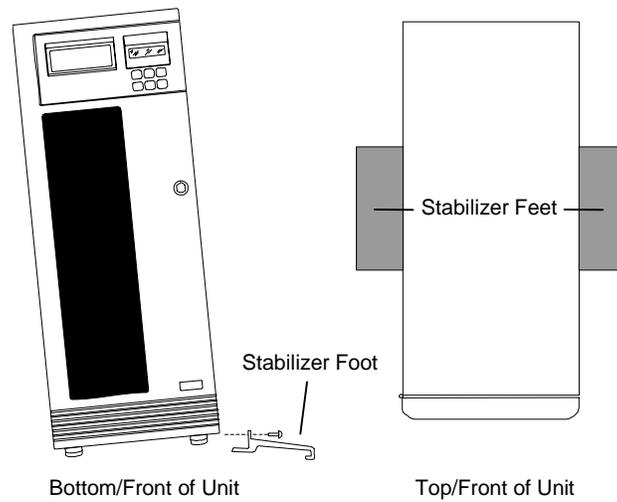

Figure 5-4 Stabilizer Foot Installation
3. With the help of an assistant, tilt the cabinet slightly and position a Stabilizer Foot as shown in Figure 5-4, so that the holes in the Stabilizer Foot align with the empty screw holes in the unit's right side panel.